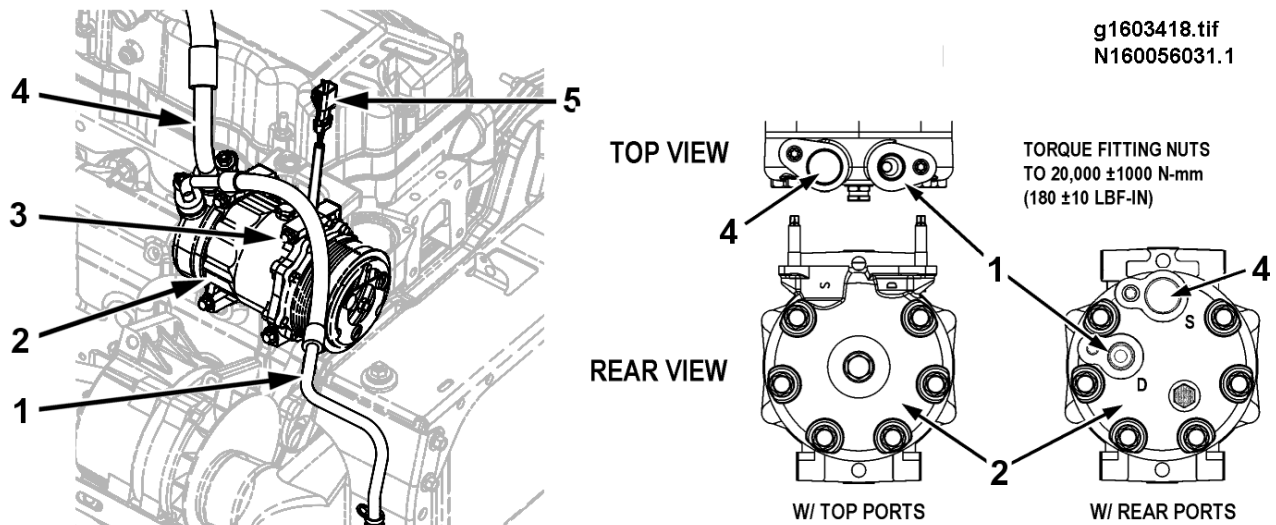

Figure 18 A/C Compressor (Typical Installation)
NOTE – Refer to Figure 18 while performing the following Remove and Install procedures.
3. Disconnect compressor clutch wiring connector (5, Figure 18) from engine wire harness.